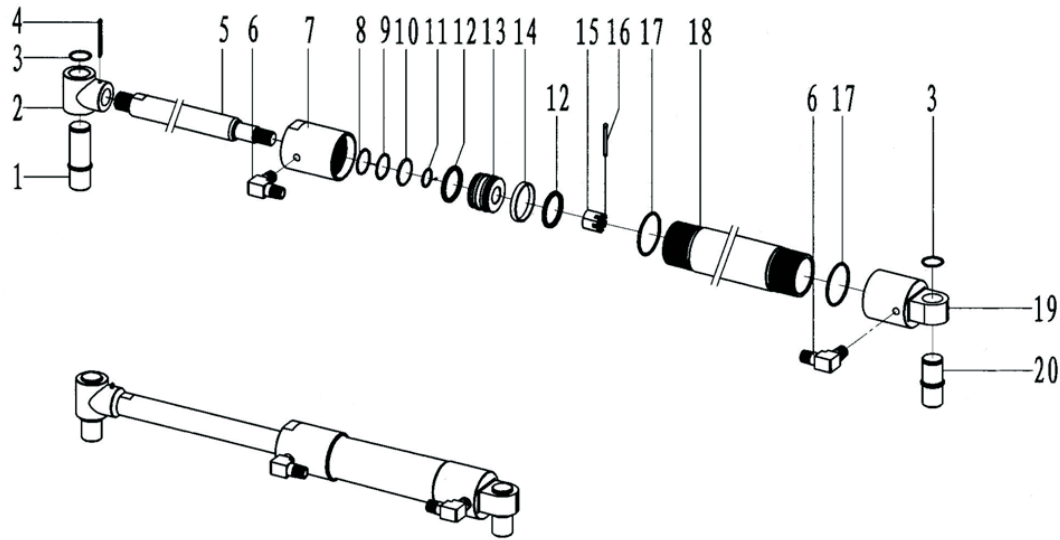

Fig.24
7.21 Clamp hydraulic cylinder(Fig.24,Table24)